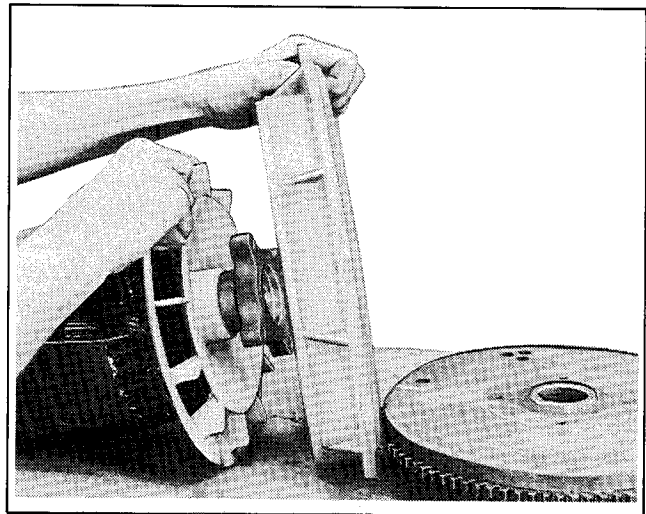

**Figure 6-11. Rotor Removal**
19. If after striking bolt head the rotor can be rocked slightly back and forth in place, remove thru bolt and pull rotor away from engine. The generator fan will be removed with the rotor (Figure 6-11).